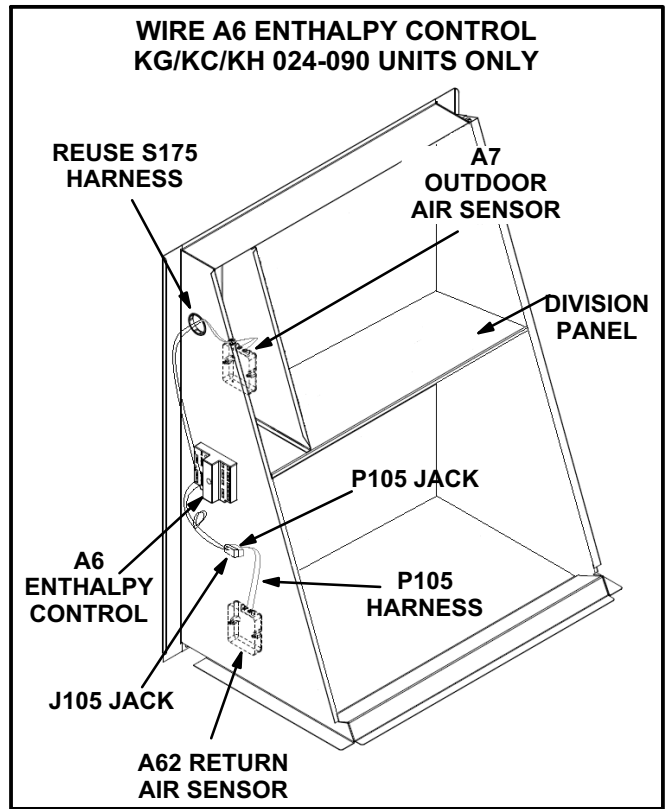
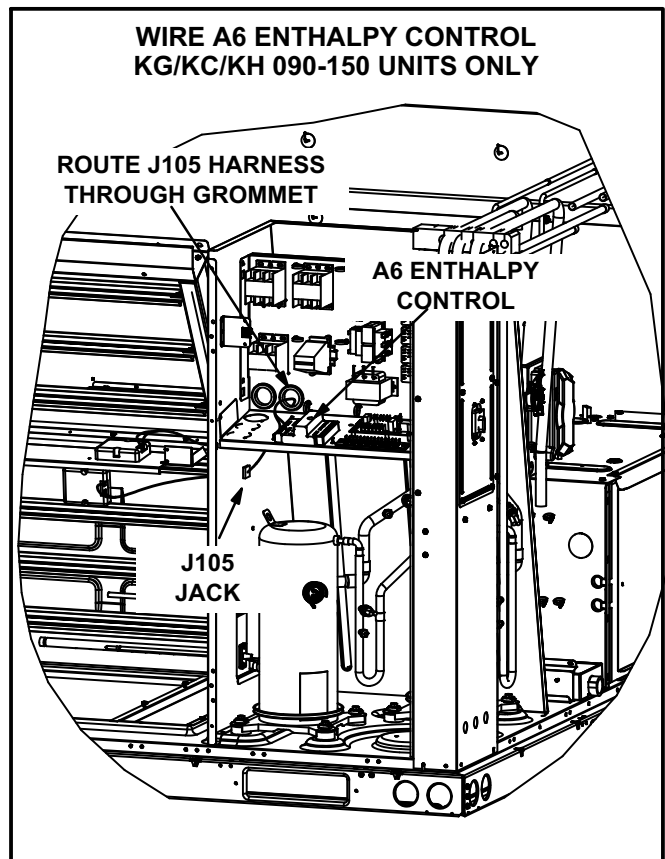

FIGURE 8
FIGURE 9
- 1- Install J105 harness jack in panel as shown in figure 8 for 024-090 units, figure 9 for KG/KC/KH 092-150 units and figure 3 for 180-300S units.